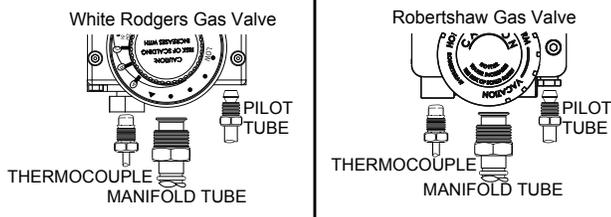

Figure 2
3. Remove the outer door from around the burner tubing at the base of the water heater. Disconnect the three connections from the bottom of the gas control valve/thermostat, being careful to note their location, see Figure 2.